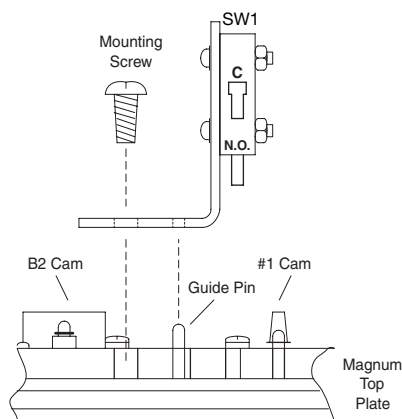
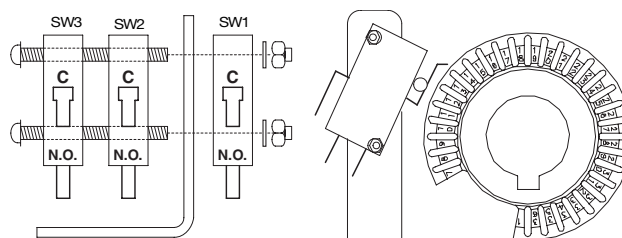

Figure 1
Figure 2
1. Fasten the switch-mounting bracket to the Magnum Cv control valve using the thread-forming mounting screw (see Figure 1). The shorter, clipped edge of the bracket should be positioned over the guide pin and screw hole located behind the B1/B2 cam.
2. Attach the switches to the bracket using the machine screws, nuts and washers provided. The screws should be inserted so that the washer and nuts are on the backside of the switch SW1. When mounting a single switch, the switch is mounted to the back of the bracket directly in front of the number one cam (see Figure 1). When a triple switch is mounted, one switch is located on the back of the bracket and two are located on the front (see Figure 2). For multiple switches it is easiest to slide two switches onto the screws and then insert the screws through the bracket. The final switch is then added to the screws and fastened with the washers and nuts (see Figure 2). Switches are mounted with the switch arm adjacent to the breakaway cams and the electrical contacts directed away from the camshaft (see Figure 3).